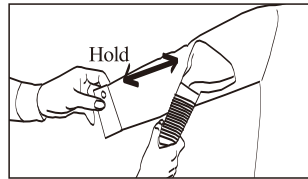

Figure 10
2. Grasp the Handle, and place the Steam Nozzle at the bottom of the garment. Steam will rise along the inside and outside of the fabric, removing wrinkles. Slowly slide the nozzle vertically, from the bottom to the top (See Figure 10 & 11 of the garment. Do not allow kinks to form in the hose at any time.